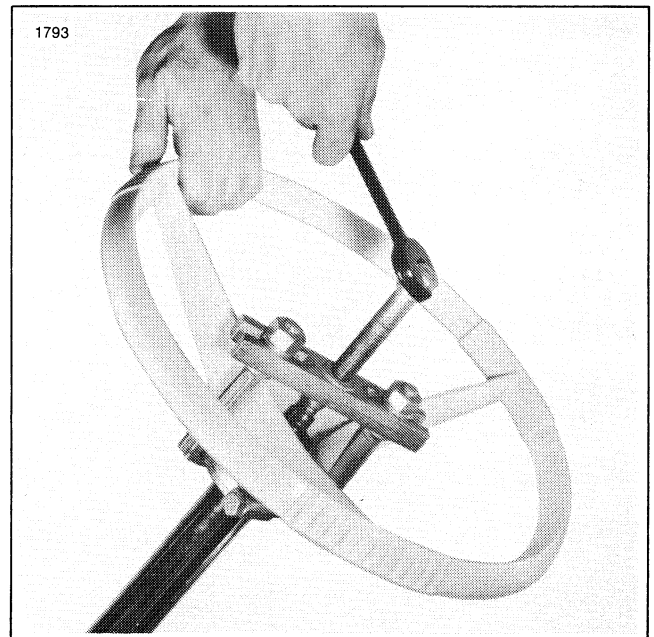

Figure 2-15. Pulling the Steering Wheel
STEERING WHEEL (Figure 2-15)
3. Loosen steering wheel nut (2) until flush with end of shaft and apply penetrating oil to shaft splines.
4. See Figure 2-15. Install Harley-Davidson WEDGE ATTACHMENT, Part No. 95637-46, under the steering wheel. Cup (4, Figure 2-12) can be depressed to gain clearance. Place a thick washer on top of the steering wheel nut to prevent damage to the shaft